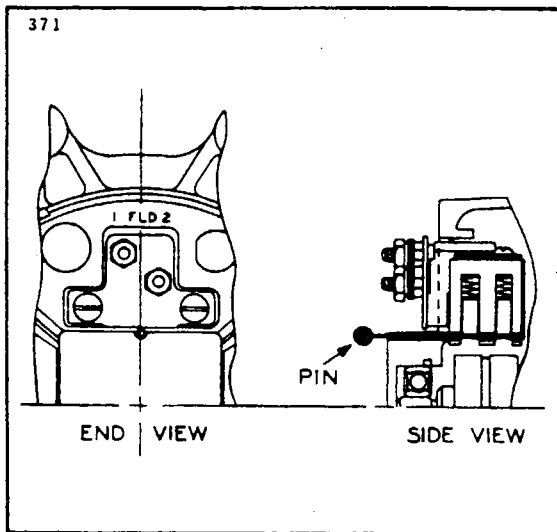

Figure 11-29. Brush Installation
c. Brushes: These units have a separate brush holder assembly that is installed after the alternator has been assembled. The brush holder has a small hole that intersects the brush cavities. Use a pin or a piece of wire, as shown in Figure 11-29, to hold the brushes in the holder during assembly. Remove the pin after the brush holder retaining screws have been tightened. Make a contin-